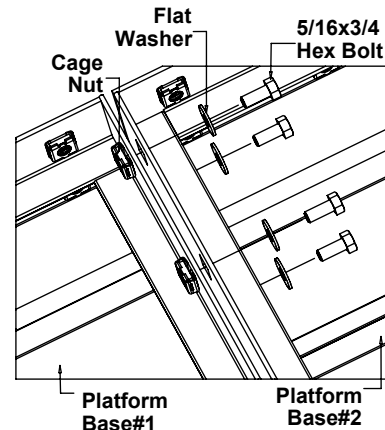

Fig.3.12
3.5 MULTIPLE PLATFORM BASE CONNECTION: To connect platform bases remove cage-nuts from one of the platforms at the seam. Place a 5/16x3/4 hex bolt with washer through the square hole on the inside of the landing channel and thread hex bolt into the aligning cage-nut on the opposite platform (**Fig.3.12**). Depending on the rise of the platform this connection can be made before or after attaching the handrail and legs. It is recommended that platform applications with a rise greater than 24" be connected after the handrail and legs have been installed.